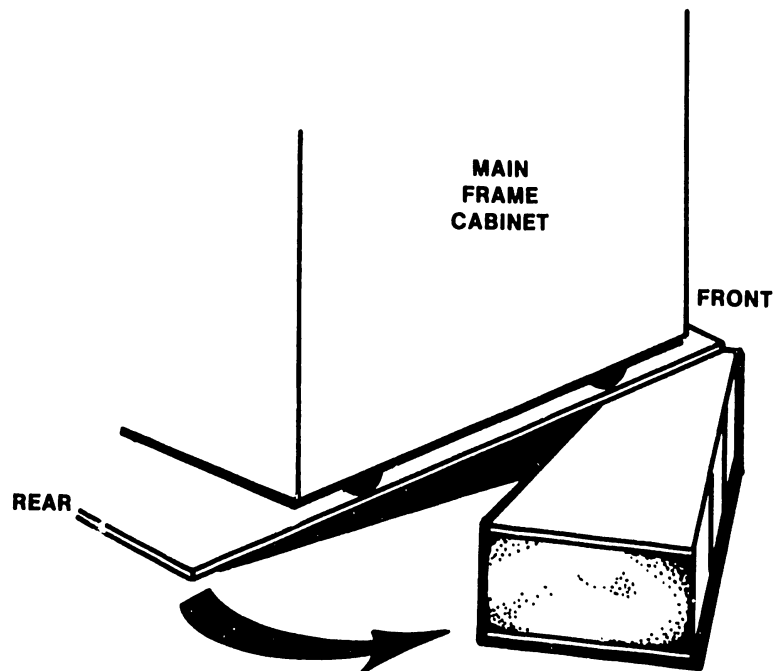

Figure 4-3. Rolling Cabinet Off Cushion Pallet
12. Carefully roll the VS-85/85-H mainframe cabinet off the rear of cushion pallet. (See figure 4-3.)